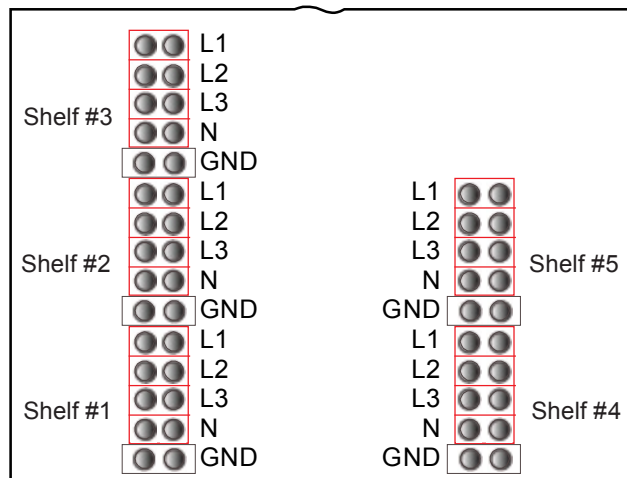

Figure 21 — Terminal blocks for 5-feed, 3-wire 208Vac input
2. Connect to the terminal blocks as shown in Figure 21. (Also clearly labeled on the panel.)